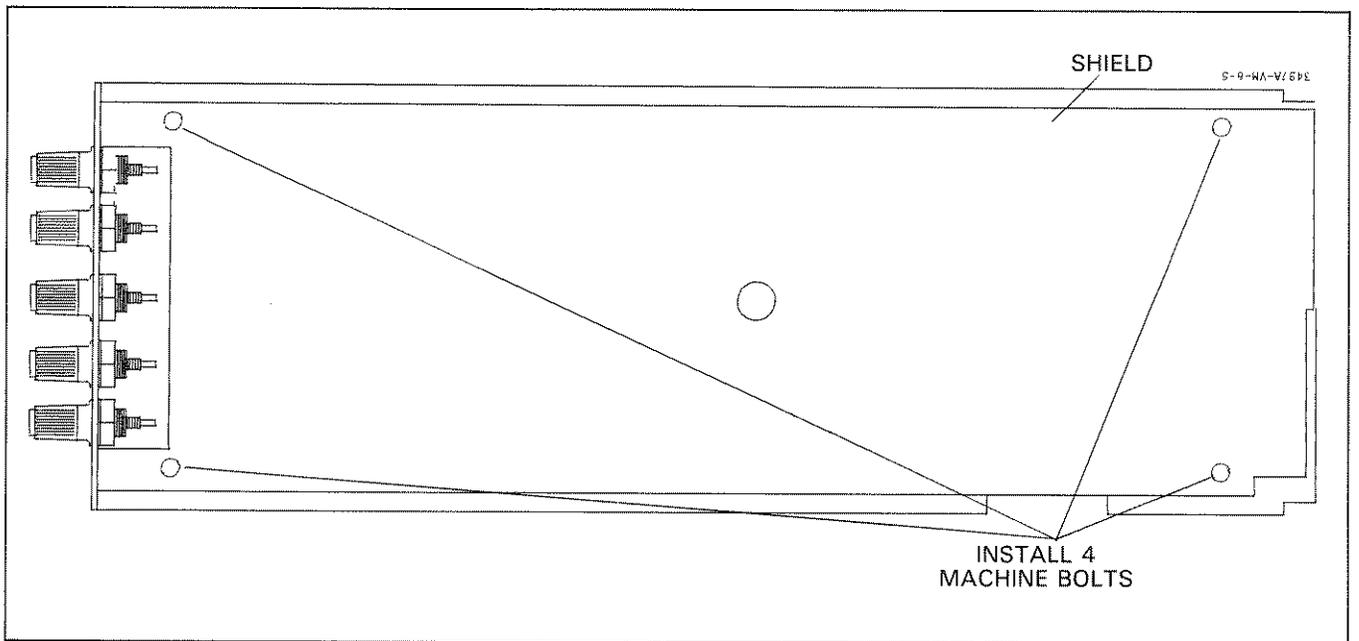

Figure 2-8. Voltmeter Installation
f. Place the metal shield in position over the voltmeter board and secure it with four machine bolts (-hp- Part No: 0515-0212), as shown in Figure 2-8.